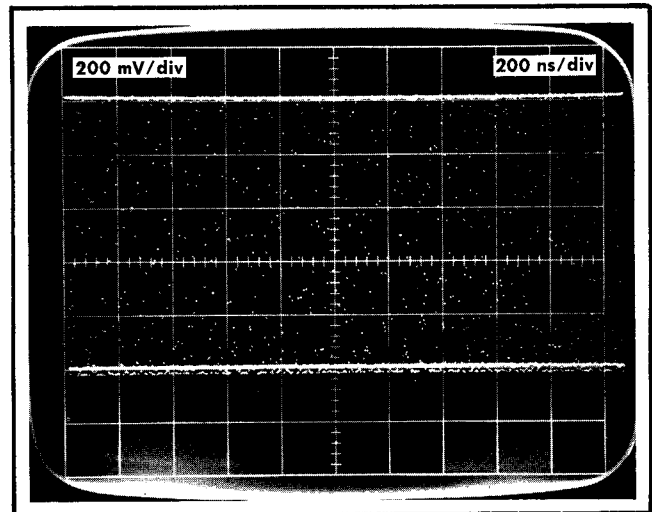

Fig. 5-10. Unity loop gain set at top of display.
d. Disconnect the trigger signal. Turn the sampling sweep Trigger Sensitivity and Recovery Time controls for a free run display as in Fig. 5-10.